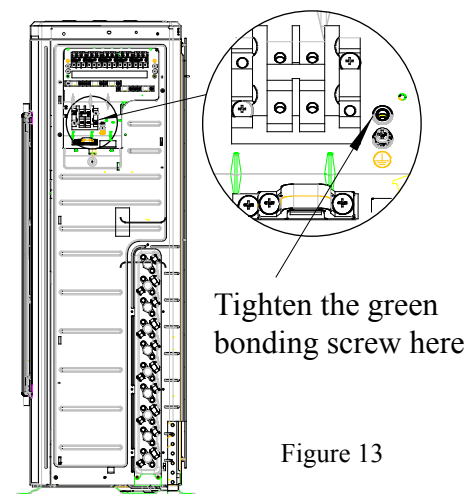

Figure 13
- (1). Open the side plate.
- (2). Connect the power cord to the terminals "L1", "L2" and also the earthing screw, and then connect the wiring terminals "N(1),2,3" of the indoor unit to those of the outdoor unit correspondingly. Please use the green bonding screw to connect the earthing cord. The location is showing in the figure 13.
- (3). Fix the power cord with wire clips.
- (4). Let the power cord go through the rubber ring.